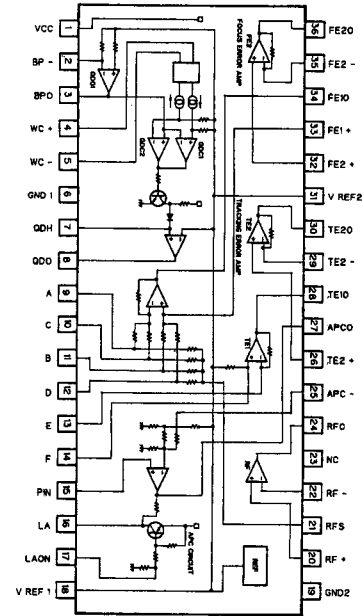

Fig. 43 Block diagram
The present system, which is of single power (+5 V) type, has 2.5 volts available for both RF Amplifier Reference Voltage Vref and other signal circuit reference voltage REFOUT. Voltages referred to below are to be expressed in Unit [REFOUT]. (A voltage based on a reference value of 0 (V) is to be expressed in Unit [V].) The IC is a 36-pin flat package, which has an internal configuration as shown in Fig. 43.